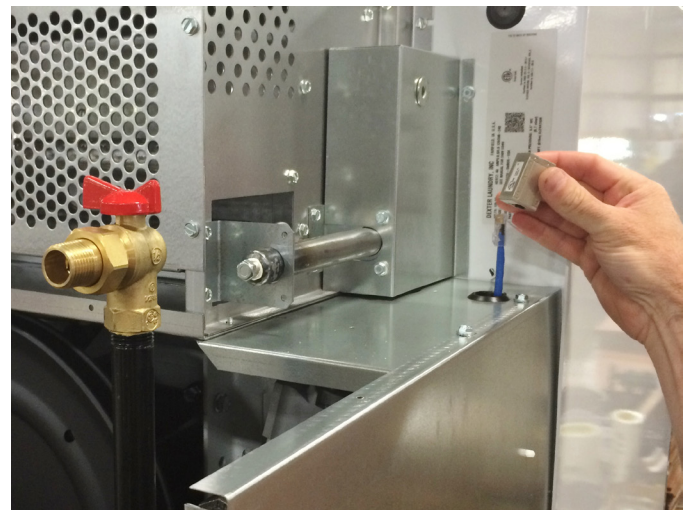

Figure 8
21. Connect the female connector, (10 are included with the DexterLive dryer kit) to cable and connect the cable that will route to your Ethernet switch (Figure 8)